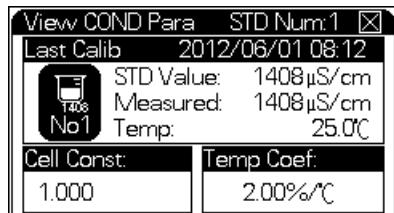

Figure 21 The View COND Para screen
- 2 Select **View COND Para** and press [**Enter**]. The meter displays the **View COND Para** screen. See Figure 21.